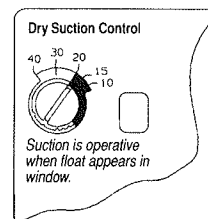

FIGURE 2
**4. SUCTION CONTROL** - A dial to set the suction control setting is located on the upper left side of the unit. **NO WATER IS NEEDED IN THE SUCTION CONTROL CHAMBER.** To set the suction control setting, rotate the dial until the red stripe appears in the semi-circular window at the prescribed suction level and clicks into place. Suction can be set at -10, -15, -20, -30 and -40 cm of water. Figure 2 shows the suction control dial set at -20 cm of water. The unit is set at -20 cm of water when opened.